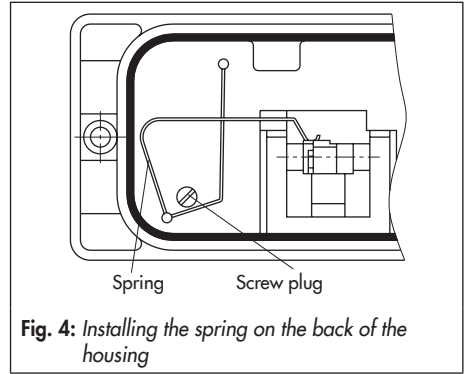

Fig. 4: Installing the spring on the back of the housing
7. Remove screw plug on the back of the positioner (Fig. 4) and seal the side signal pressure output with the stopper included in the accessories.
8. Mount the positioner so that the hole in the intermediate plate (15) covers the seal in the hole of the actuator yoke.
An adapter housing is used for attachment (Fig. 6). The valve travel is transmitted by the lever (18) and the shaft (25) to the bracket (28) of the adapter housing and then passed on to the pin (27a) on the lever of the positioner. To ensure that the pin (27a) is properly located in the bracket (28), fix the spring included in the accessories at the back of the positioner housing as illustrated in Fig. 4.